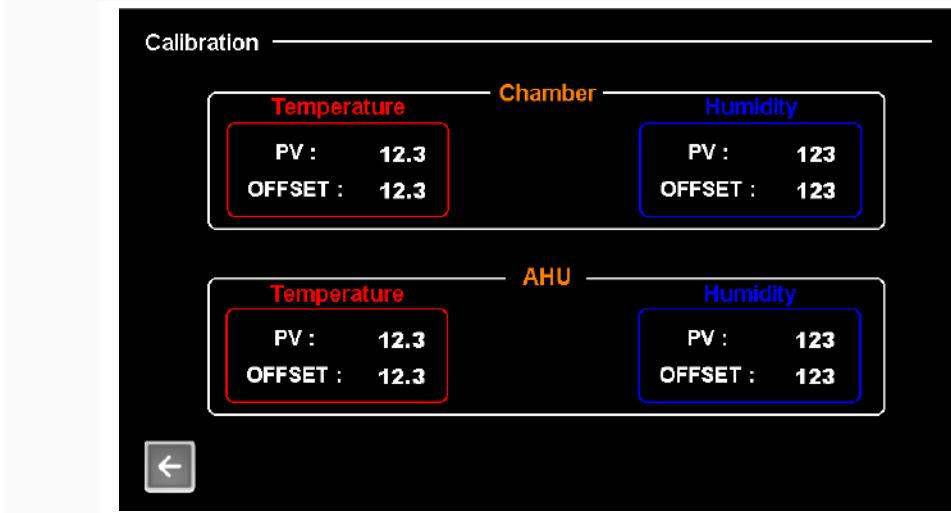

Fig. 6
## ■ Calibration Menu (Fig. 6)
- Device information access (Fig. 6)